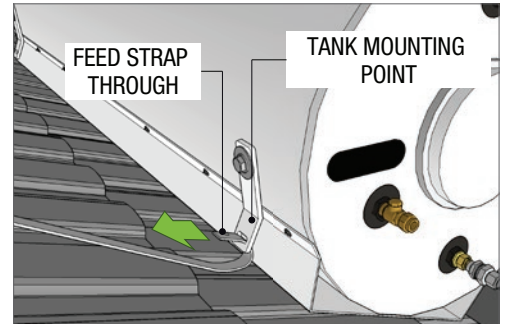

Fig 11
4. Fold the stainless steel straps (supplied) in half and feed them through the eyelets on the steel tank fixing lugs (Fig 11)